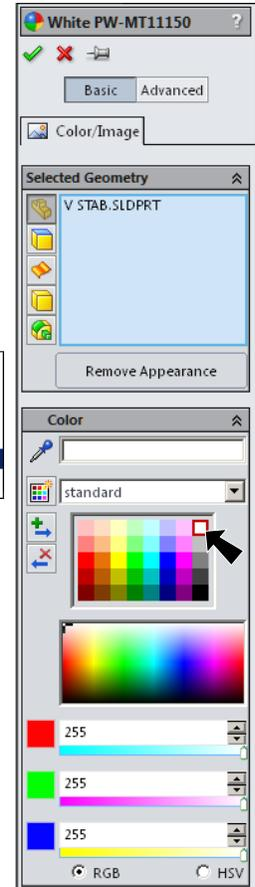

Fig. 20
- Step 3. In the Appearances Property Manager, under **Color**, Fig. 20